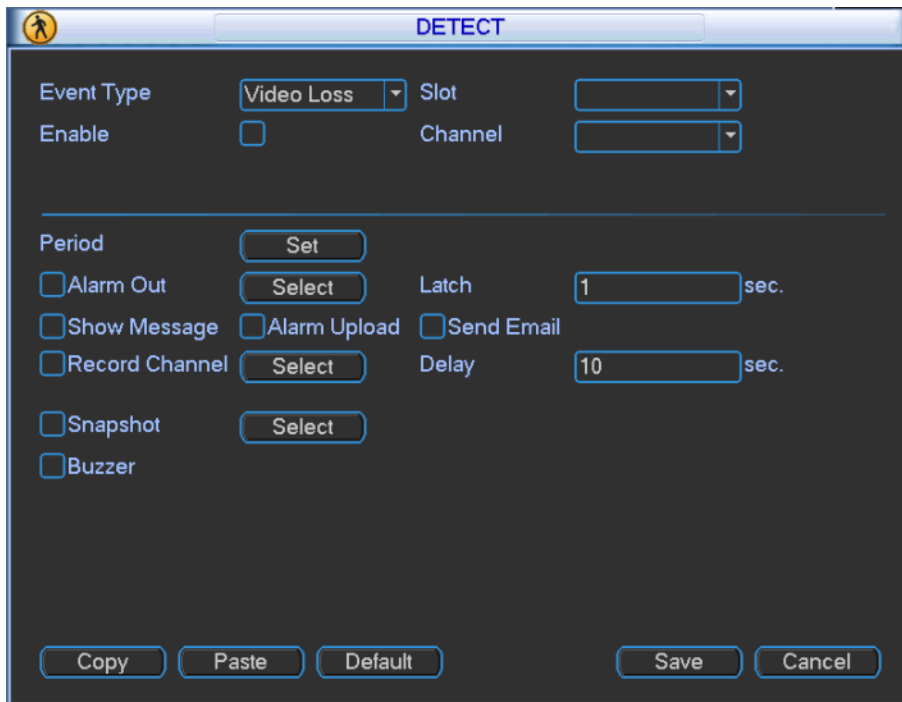

Figure 3-57
Step 1 Select "Event Type" to be "Video Loss". The system displays Figure 3-57.